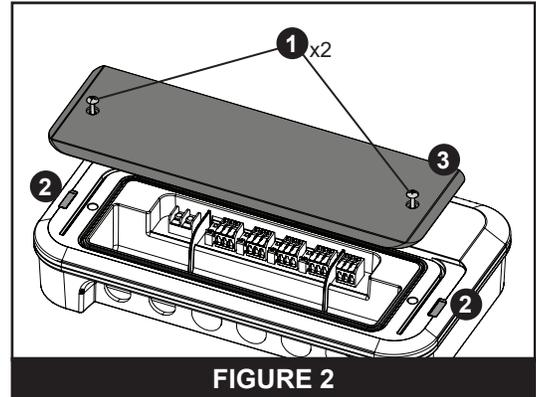

FIGURE 2
2. Loosen the two Philips-head *Wiring Cover Screws* (1). Refer to **FIGURE 2**.
3. Gently insert a flathead screwdriver into one of the *Reliefs* (2) in the *Wiring Cover* (3) and remove the cover. Refer to **FIGURE 2**.